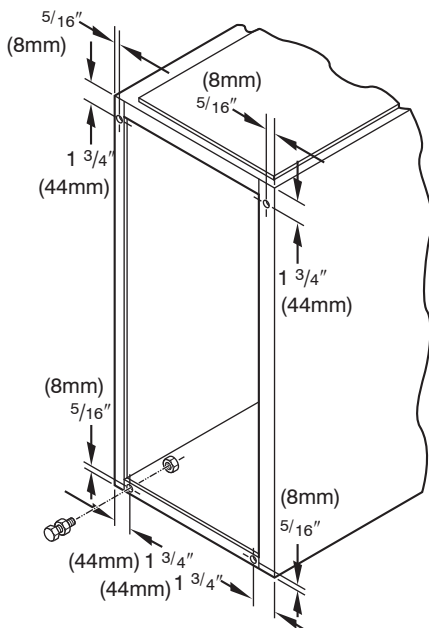

Fig. 10 - Leveling Legs
In upflow position with side return inlet(s), leveling legs may be used. (See Fig. 10.) Install field-supplied, 5/16 x 1-1/2 in. (8 x 38 mm) (max) corrosion-resistant machine bolts, washers and nuts.
1. Position furnace on its back. Locate and drill a hole in each bottom corner of furnace. (See Fig. 10.)